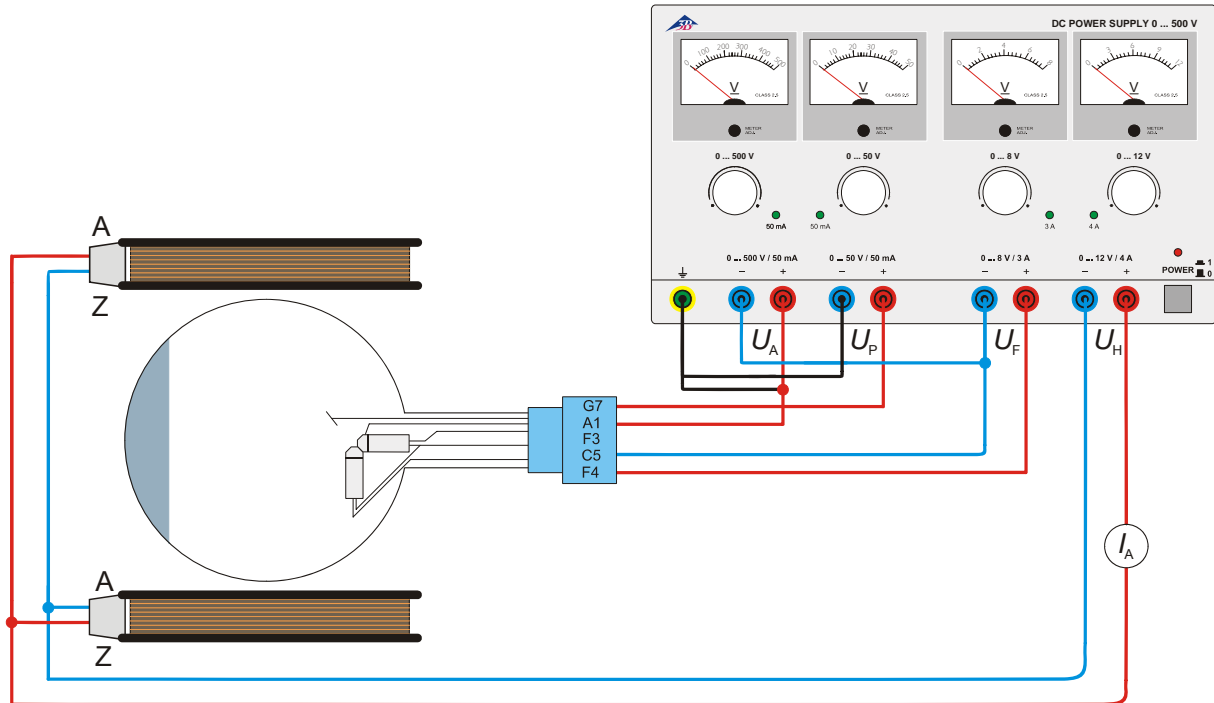

Fig. 4 Determining e/m using the perpendicular electron gun
- Connect up the tube as in Fig. 4.